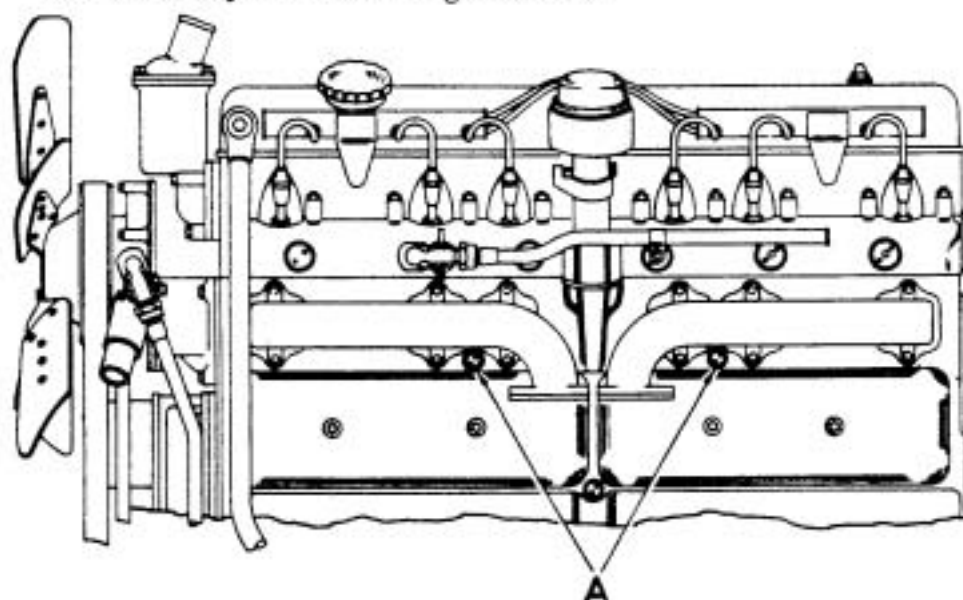

FIG.1 LOCATION OF CORE PLUGS
On certain $\frac{3}{8}$ " bore engines two aluminium alloy core plugs were fitted on the left hand side of the crankcase above the tappet covers as shown at A Fig.1.
- (i) Lay the joint on a flat surface, and, at about the centre of its length, diagonally cut one side of the joint in half. (See Fig.1).